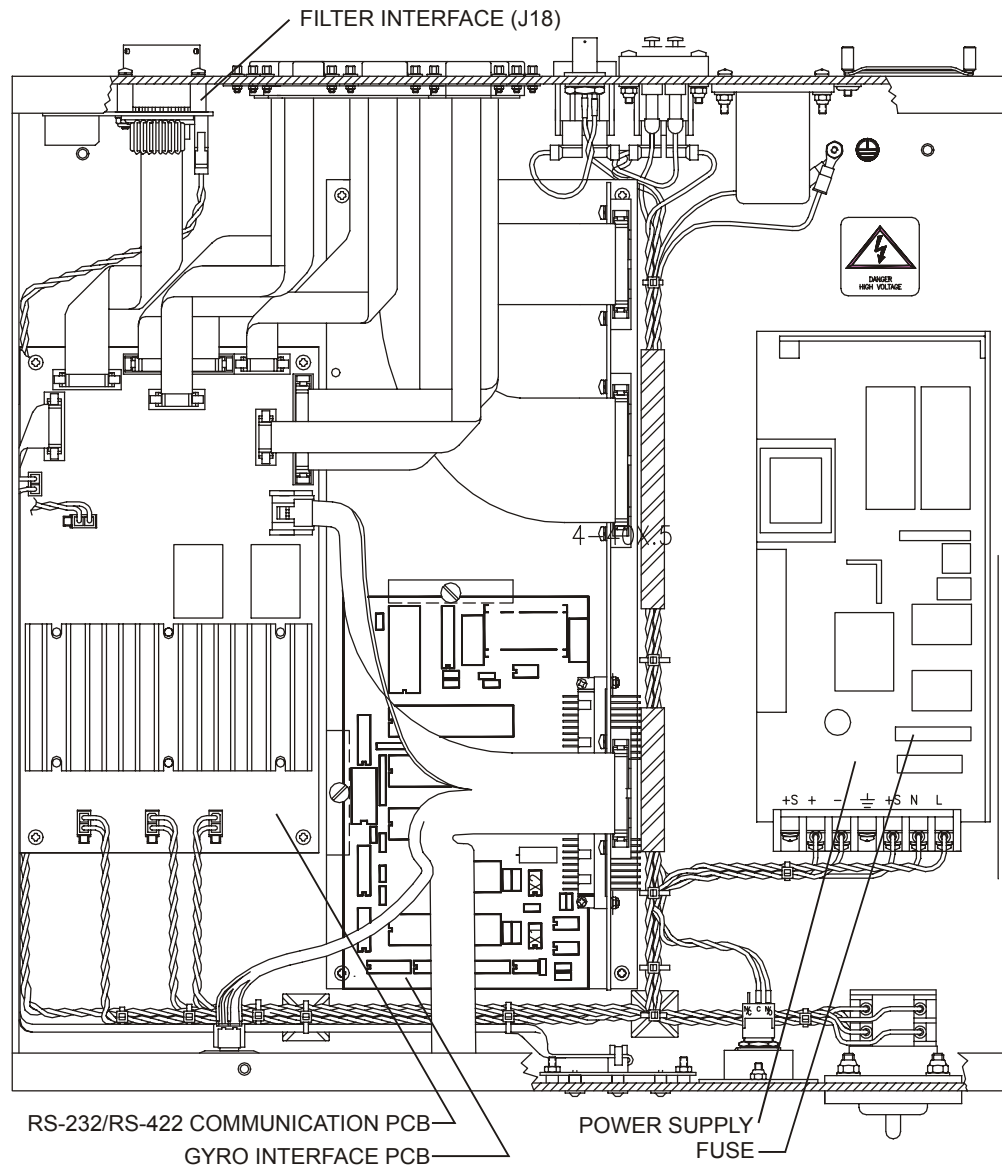

Figure 5. Deck Box (Top View)
| Figure 5.  | Deck Box (Top View) .....                       | 8  |
Memory cards are not included with the Mariner ADCP. Two PCMCIA memory card slots (see Figure 5, page 8) are available, with the total memory capacity not to exceed 2GB. The PC Card recorder is located on the Digital Signal Processor (DSP) board inside the Workhorse's electronics. To recover data, the card can be removed and used in a personal computer (PC), or left in the Workhorse, and accessed by using *WinSC* (see the WinSC and PlanADCP User's Guide).
- c. Locate the Filter Interface board (see Figure 5, page 8). Locate connector J18 and disconnect the twisted black and white cable plugged into this connector. The power from the deck box to the ADCP has now been disabled. Only the batteries are powering the ADCP.